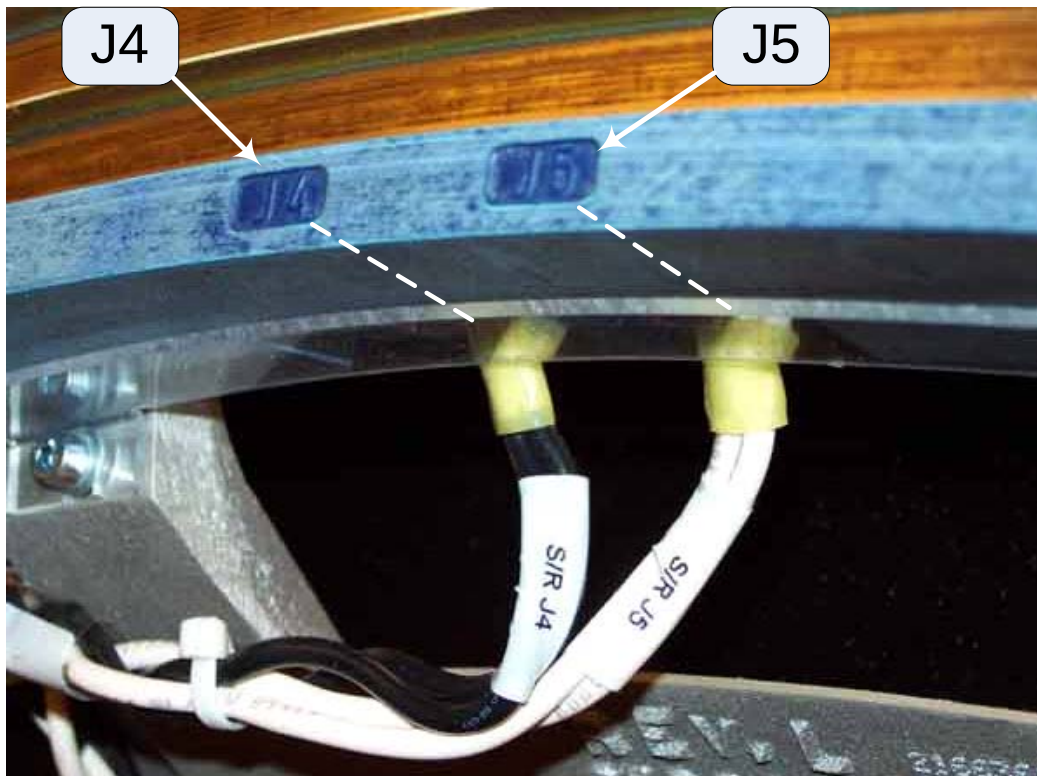

Figure 4: Proper wiring connection on Slip Ring
7. Inspect the 120Vac wiring connection on the Slip Ring and compare it to the Figure 4 below.